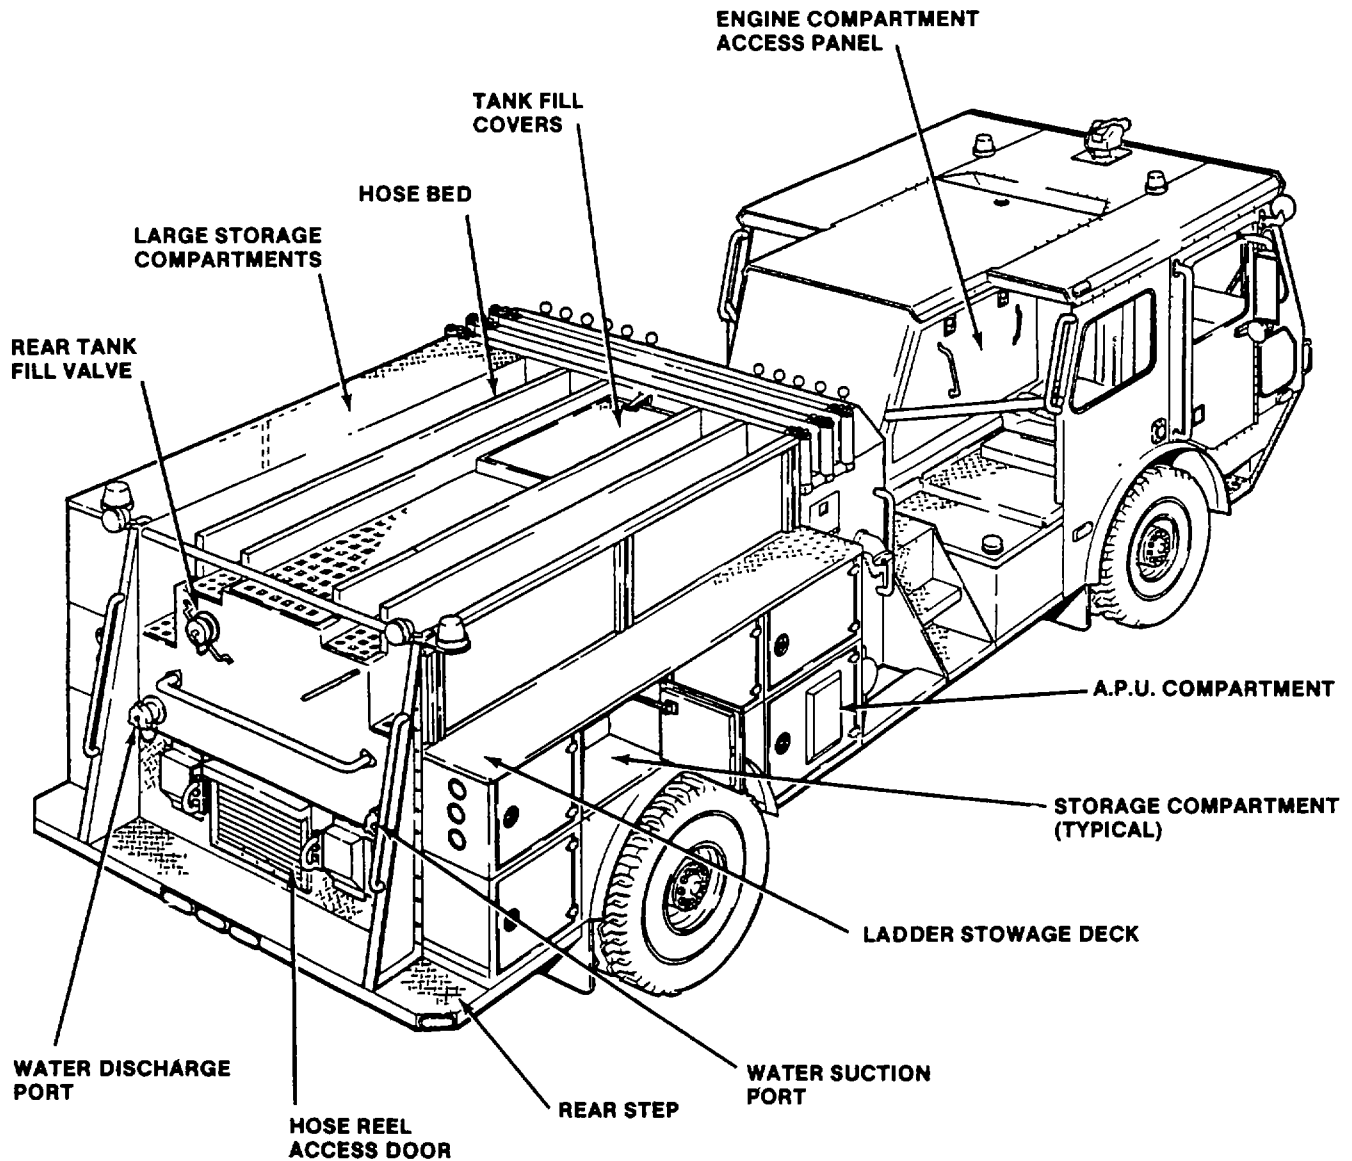

Figure 1-5 Rear Body Components
(9) The hose body houses the water and foam tanks and contains storage compartments for auxiliary equipment, (see fig. 1-5). The body structure, is made of aluminum.
(10) Two large storage compartments are provided on the upper left hand side of the rear body. These compartments are equipped with top hinged doors and collapsible gas cylinders to support the doors in the fully open position. All other doors are fitted with spring-type hatch holders.
p. **Winterization System.** The winterization system comprises a combustion-type water heater (winterization heater), a water-to-air heat exchanger with blower fan (pump body heater), a water-to-air heat exchanger (battery heater), water and foam tank heat exchanger elements, and pumping connecting all of these components to the engine cooling system and the APU-driven circulation pump, (see fig. 1-5). The water tank to pump suction pipe is also equipped with a water/water heat exchanger. The system is provided to keep the cab and engine coolant warm, without running the main engine. In addition, it maintains the temperature of the firefighting system above freezing when the truck is on emergency stand-by in cold weather. Engine coolant is heated by the winterization heater and circulated through the main engine, cab heater, water and foam tanks, battery heater and the pump body heater. The winterization heater draws its fuel from the main engine fuel tank. Electrical power for operation is provided from the truck batteries.